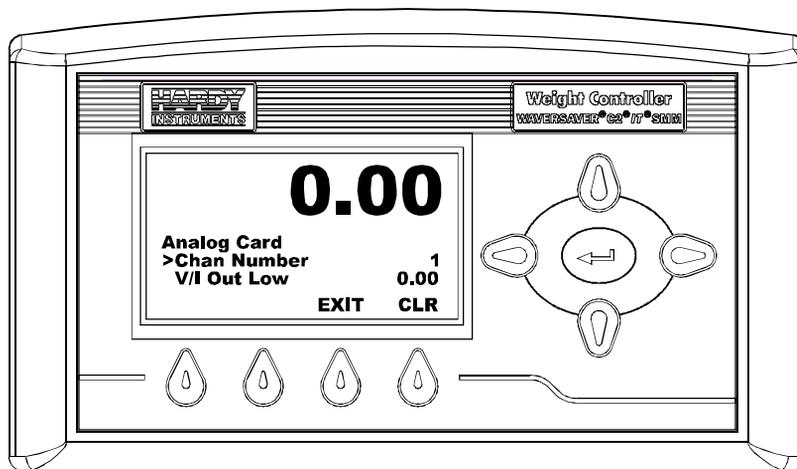

FIG. 147 ANALOG CARD/LISTING CHANNEL NUMBER 1
Step 2. Press the Enter button. the Analog Card Sub-Menu appears. (See Fig. 147)